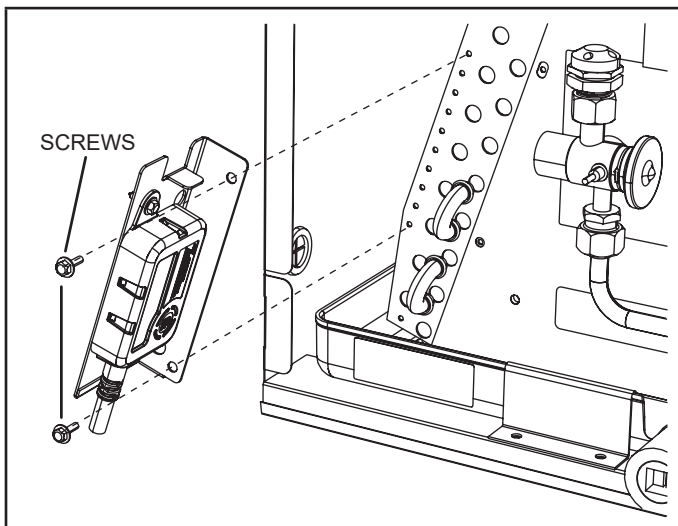

**FIGURE 10**
- 2 - Attach sensor to bracket using provided screws as shown in figures 10 and 11.